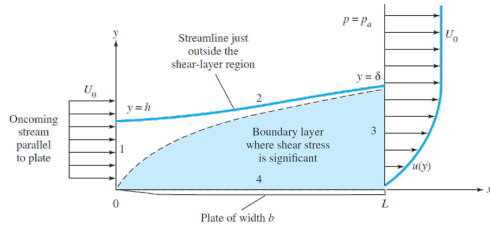

Fig. 3.13
- 3.13 Assume that the outflow velocity profile is given by $u(y) \approx U_0 \sin(\pi y/(2\delta))$ for the flow over the flat plate, shown in Fig. 3.13. The fluid is water at 20°C , $U_0 = 3 \text{ m/s}$, $\delta = 2 \text{ mm}$, and $L = 0.45 \text{ cm}$. Estimate the drag force per unit width of the plate.